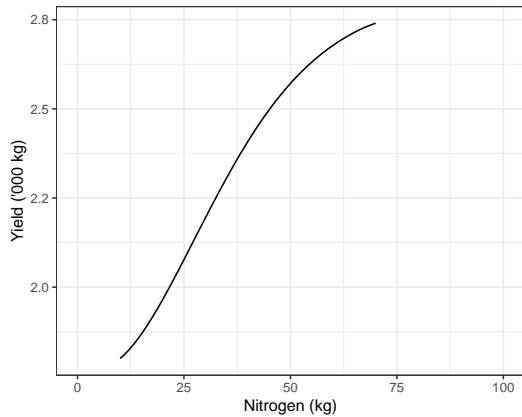

Figure 1: Relationship between nitrogen application and yield
This relationship is highly important, since too little nitrogen means the yields will be lower than the potential, and too much nitrogen will “burn” the crop, causing smaller yields. Figure 1 shows the connection between nitrogen applications and wheat yields.
- If nitrogen were free, then the optimal application to a wheat field would always be  $N^*$  in Figure 1, since this is the level of nitrogen that maximizes production.